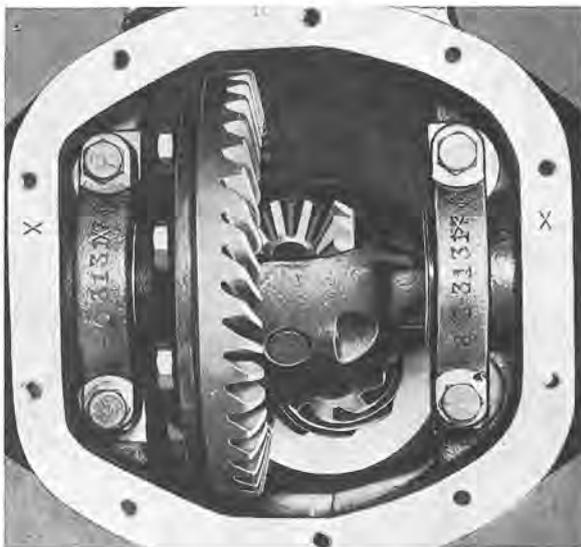

Fig. 4-142. Alignment marking on cap and carrier
5. Check the alignment markings on the cap and carrier, see Fig. 4-142. If there are no markings, or if they are difficult to see, mark one side with a punch. Remove the caps.